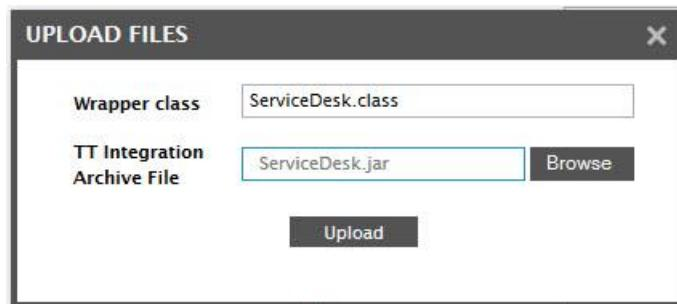

Figure 5.8: Uploading the TT integration jar file to the eG manager
8. The implementation of eG integration with RemedyForce exists in a Java class file named **SalesForceIntegrator.java**. Additionally, the API files and library files that support this class file are jarred in **EG-webservice.jar** file. In eG, this jar file is referred to as the **TT integration archive file**. By default, the implementation class file and the jar file are bundled with the eG manager and are available in the **<EG\_INSTALL\_DIR>\manager\lib** directory on the eG manager host. However, if later, changes are made to these files, you will have to re-upload them to the eG manager. In such a case, set the **Do you want to upload the supporting archives?** flag to **Yes**, and click the **Upload** button alongside. This will invoke Figure 5.8.
Here, specify the full path to the **Wrapper class** file – i.e., the **SalesForceIntegrator.java** file - and the **TT Integration Archive File** – i.e., the **EG-webservice.jar** file - to be uploaded. Use the **Browse** button for the path specification. Finally, click the **Upload** button in Figure 5.8.
8. The implementation of eG integration with PagerDuty exists in a Java class file named **PagerDutyIntegrator.java**. By default, the implementation class file is bundled with the eG manager and is available in the **<EG\_INSTALL\_DIR>\manager\lib** directory on the eG manager host. However, if later, changes are made to this class file, you will have to re-upload it to the eG manager. In such a case, set the **Do you want to upload the supporting archives?** flag to **Yes**, and click the **Upload** button alongside. This will invoke an **UPLOAD FILES** window, as depicted by Figure 5.8. In this window, specify the full path to the **Wrapper class** file – i.e., the **PagerDutyIntegrator.java** file – to be uploaded. Use the **Browse** button for the path specification. Finally, click the **Upload** button in Figure 5.8.